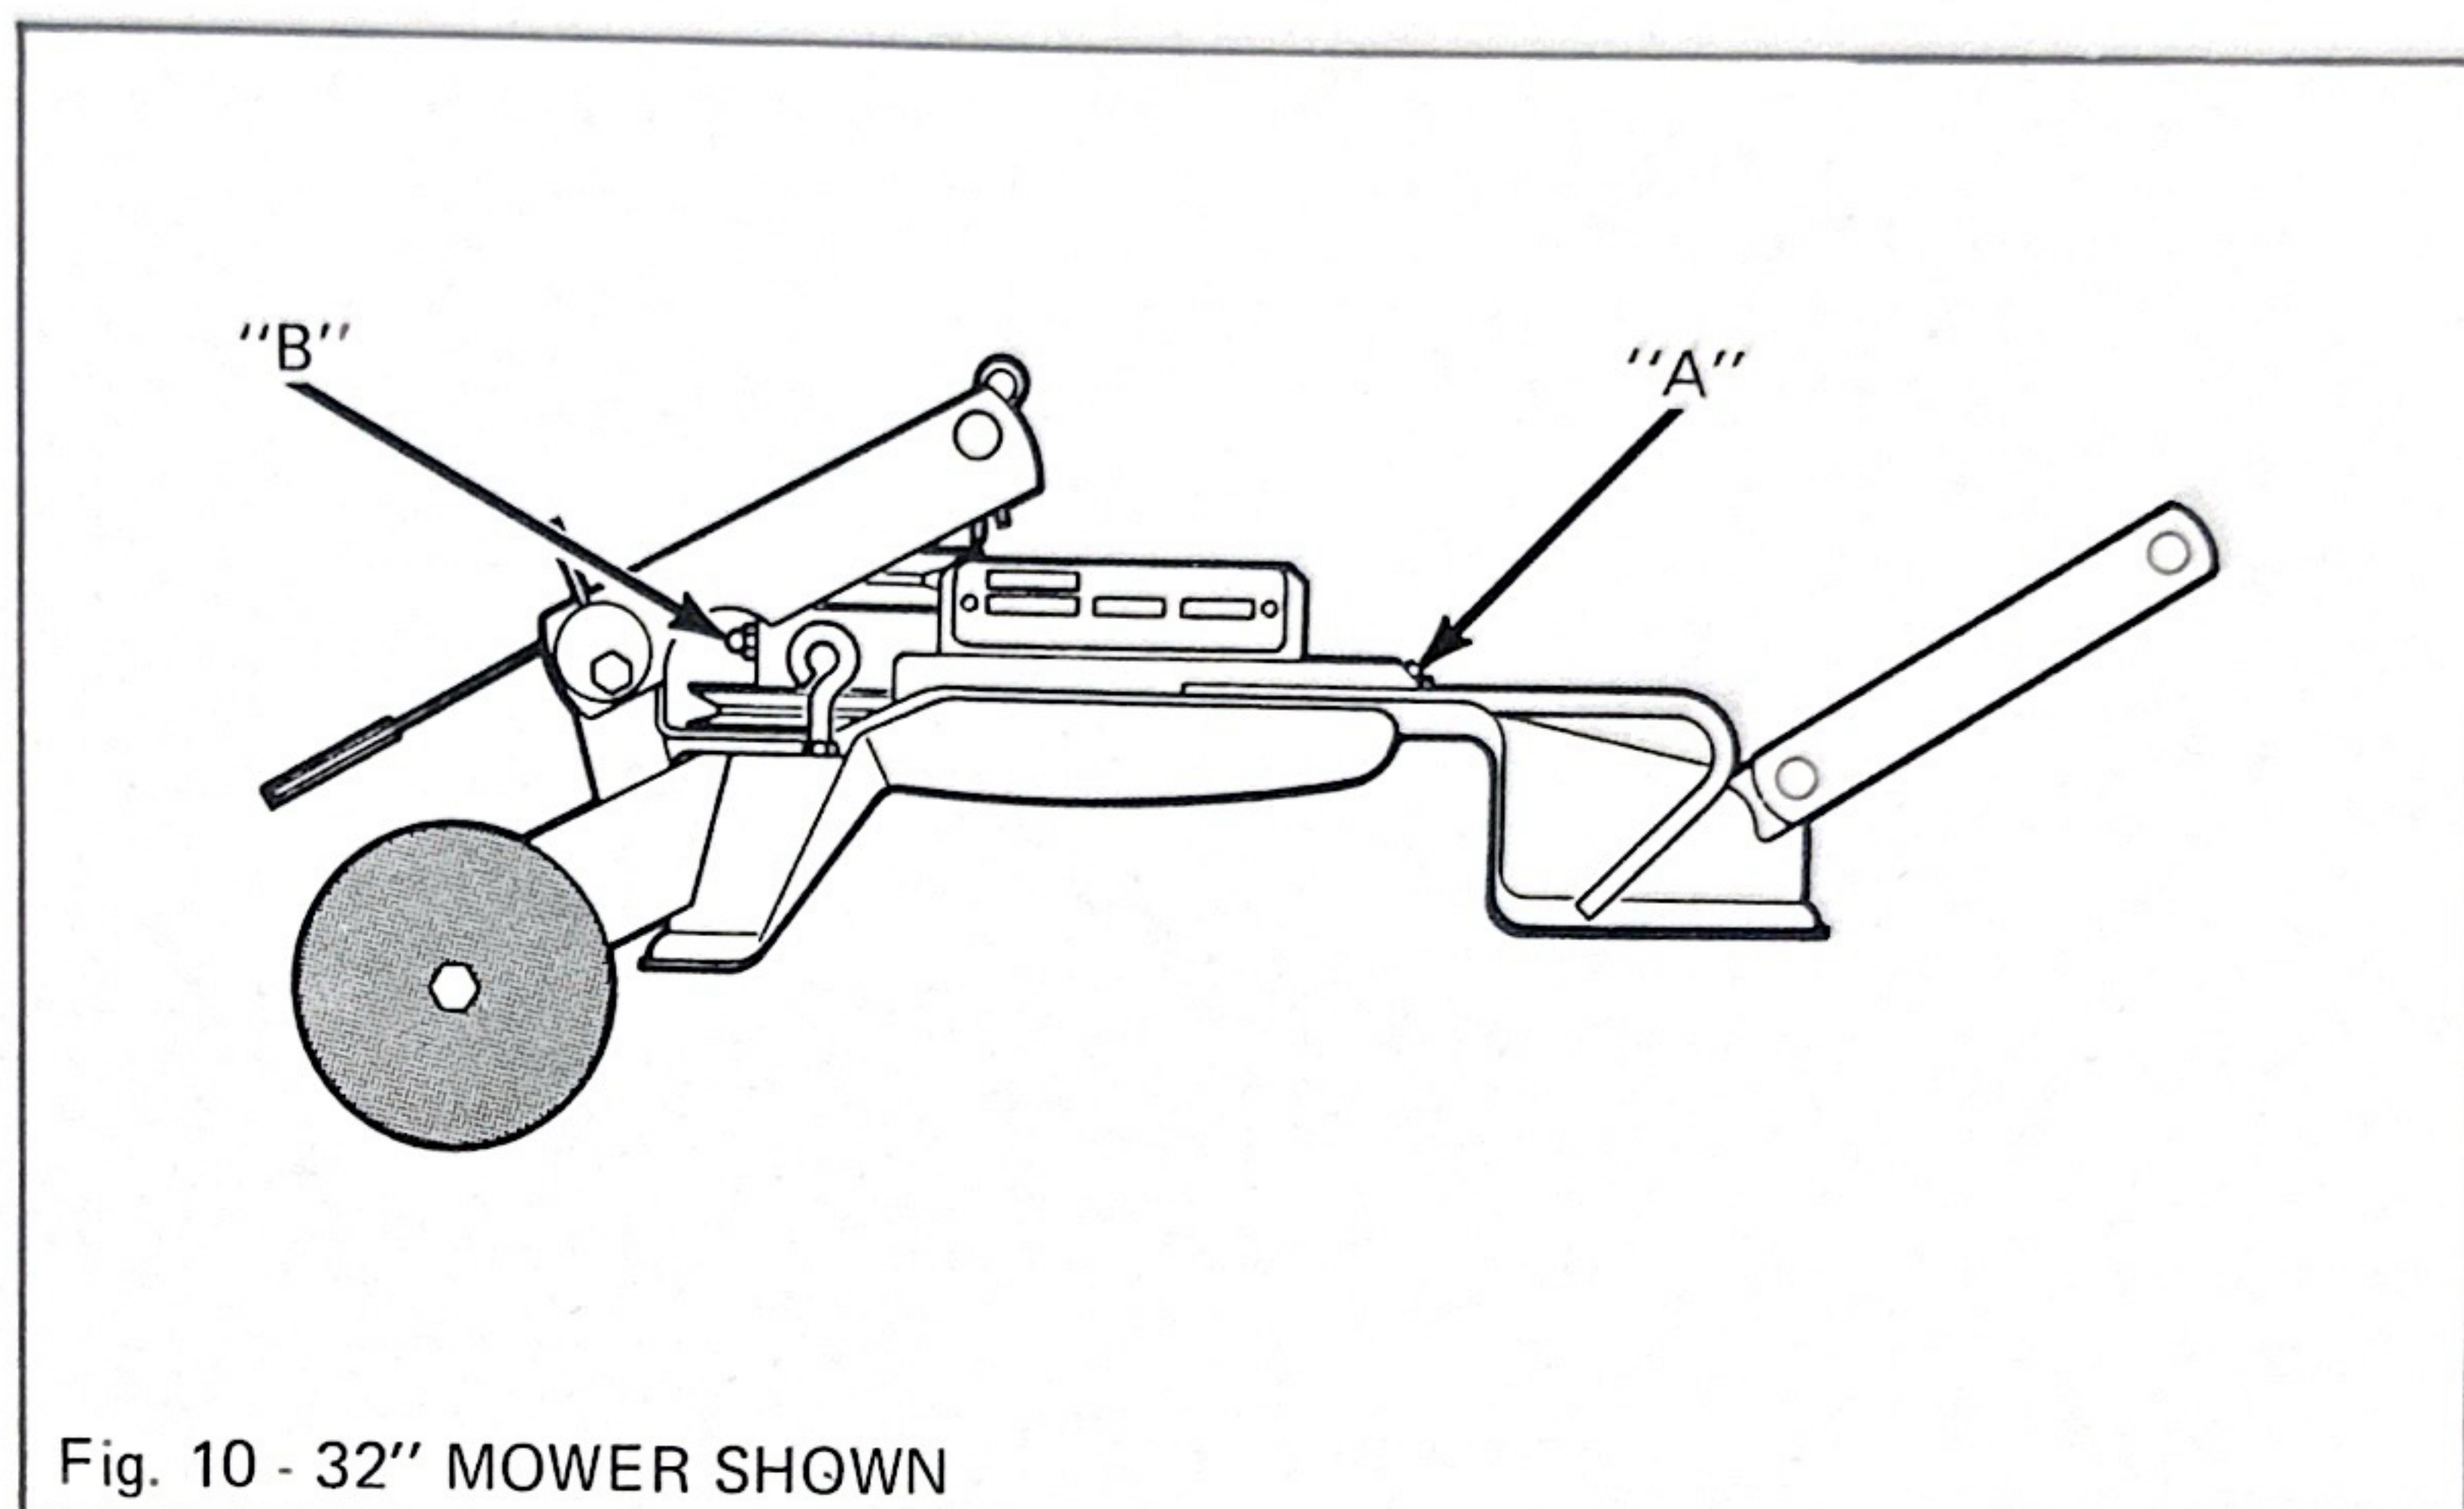

Fig. 10 - 32" MOWER SHOWN
The mower has four grease fittings, one on each blade housing located on top of mower deck (A), Figure 10, and one on the input sheave (B). Lubricate these grease fittings every 8 hours of operation.